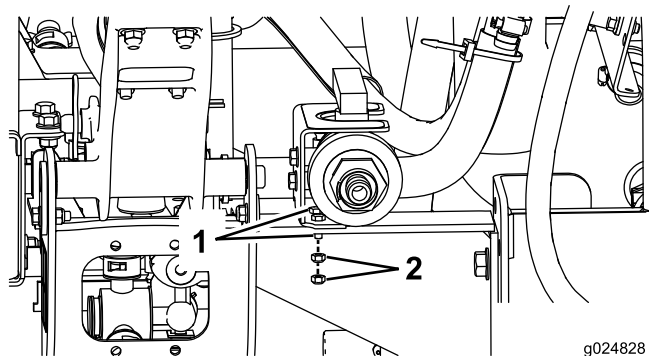

Figure 21
3. Install the ball valve and valve mount bracket to the machine with 2 hex-head bolts (6 mm) and 2 flange nuts (6 mm) (Figure 21).